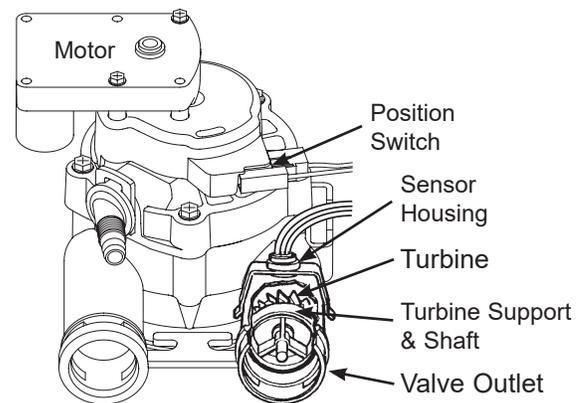

FIG. 110
6. If the display reading does not change with the faucet open, pull the wire harness from the valve outlet port (See Figure 110).